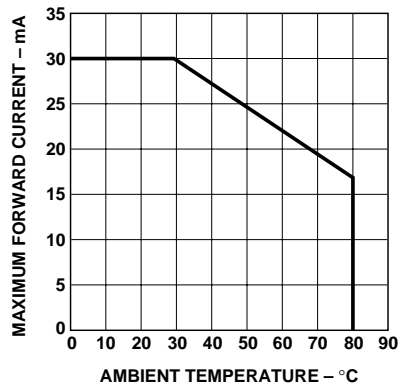

Figure 3. Forward current vs. ambient temperature.
- Derate linearly as shown in Figure 3.